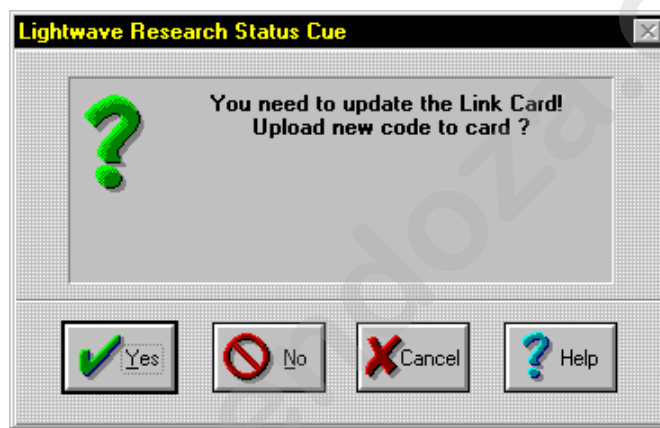

Figure 1.34. Upload New Code to LinkCard Dialogue Box
2. Double-click on the **Status Cue** icon in the **Status Cue** group. You will be prompted to upload software into the LinkCard. Refer to Figure 1.34.